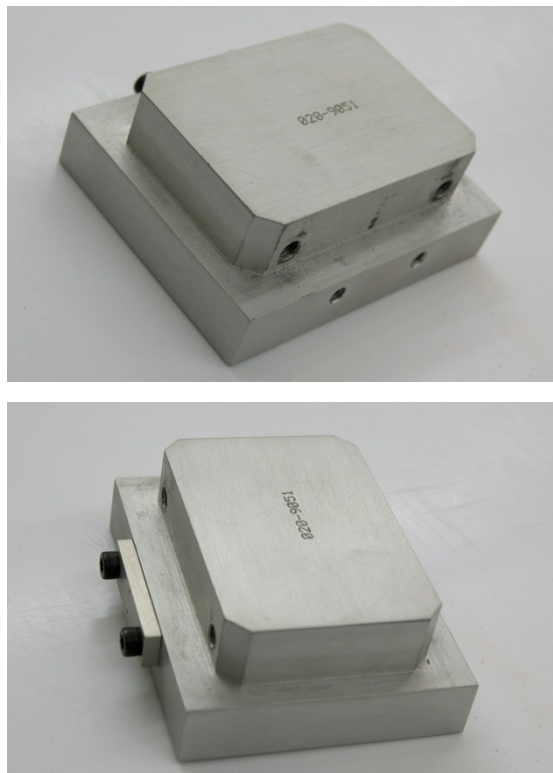
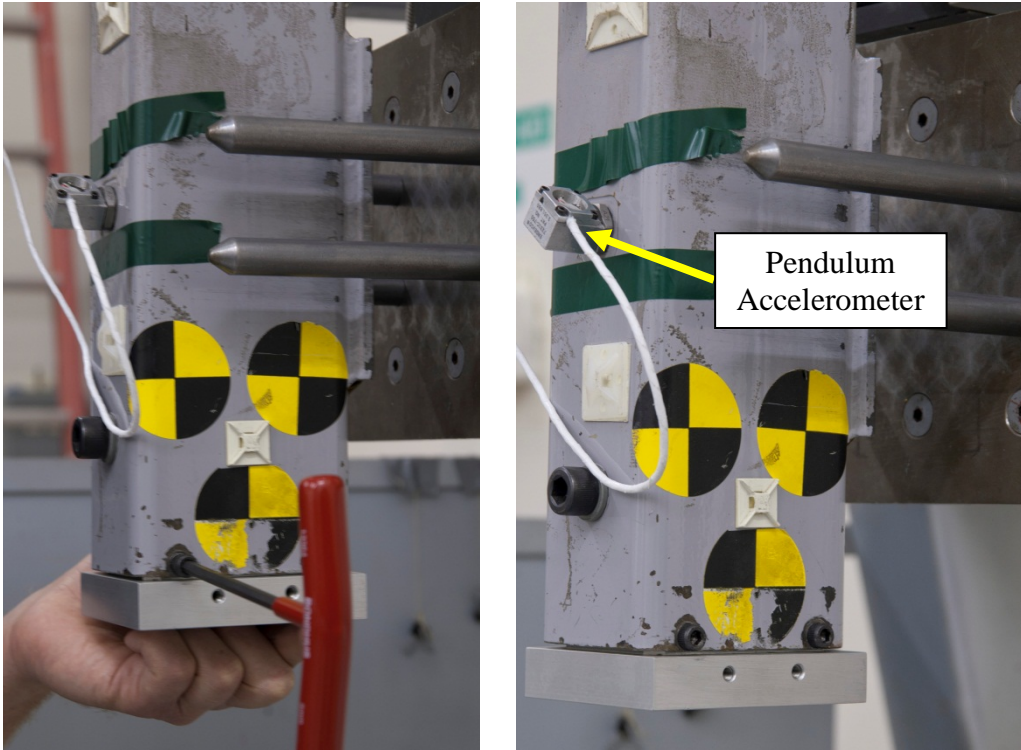

Figure 25. Interface plate for test pendulum
Figure 26. Install pendulum interface plate and pendulum accelerometer
- Install the interface plate to the bottom of the pendulum using four (4) M6 x 15 SHCS (Figure 25 and Figure 26).
- Install accelerometer to the pendulum (Figure 26).